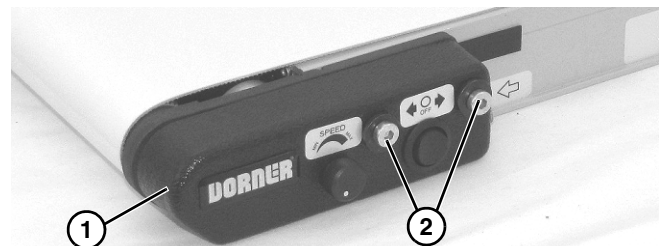

Figure 69
7. Install inframe drive side cover (**Figure 69, item 1**) with two head plate fastening screws (**Figure 69, item 2**).